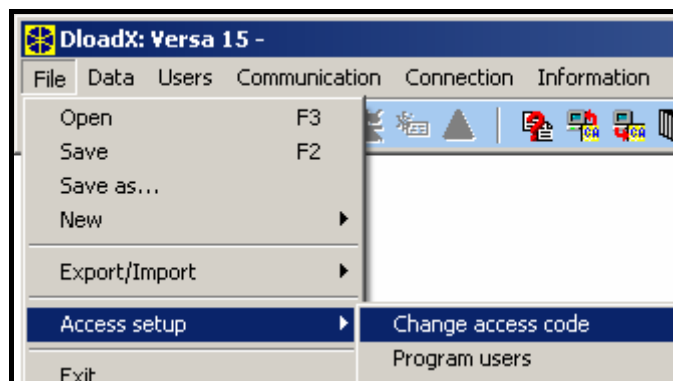

Fig. 5. Functions related to the access to DLOADX program.
1. Open the FILE menu, select ACCESS SETUP and then CHANGE ACCESS CODE (see: Fig. 5).
The program allows you to obtain access, based on additional access codes, which can be defined and for which the authority level can be defined (FILE → ACCESS SETUP → PROGRAM USERS – see: Fig. 5).